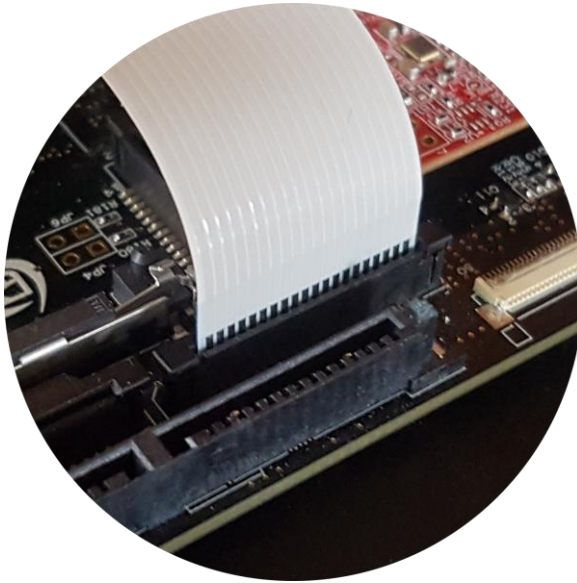
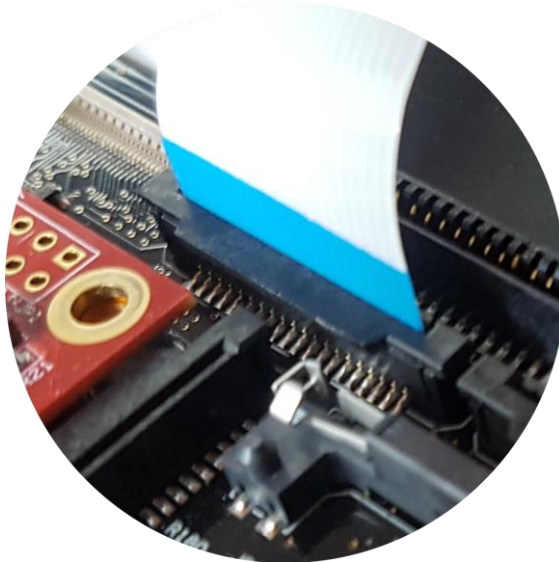

Figure 7 - Cable inserted into J21 (back)
Figure 8 - Cable inserted into J20 (front)
1. Connect the camera to the J21 connector as shown in Figure 7 and Figure 8.